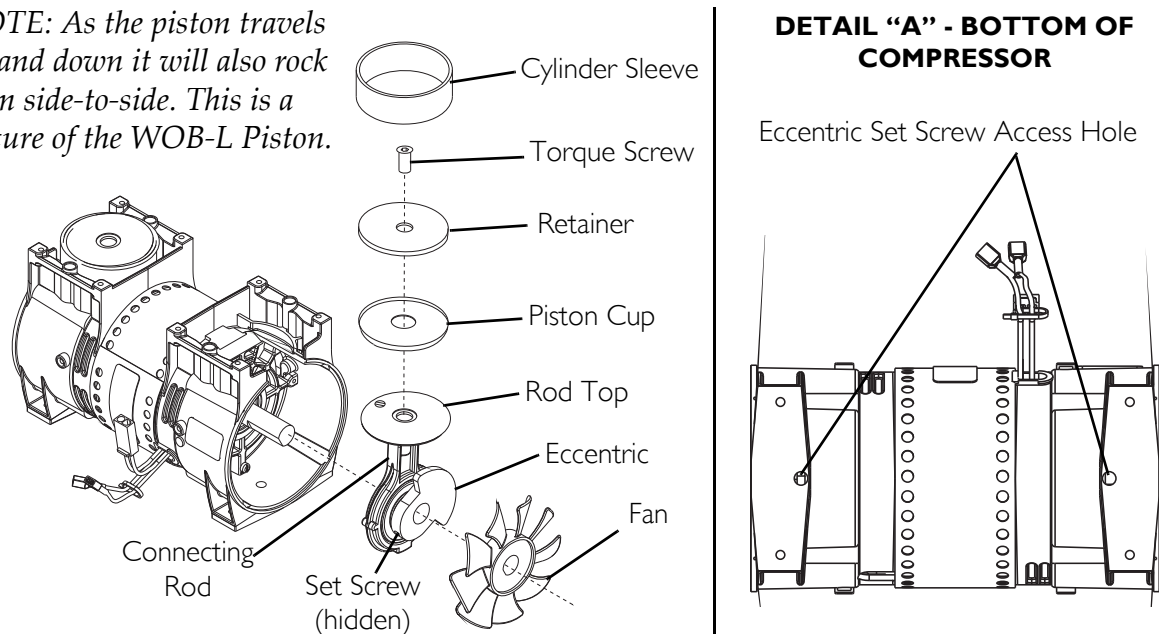

FIGURE 7.5 Removing Compressor and Compressor Heads - Rebuilding the Compressor - Fan - Connecting Rod and Eccentric Assembly - Piston Cup
NOTE: For this procedure, refer to FIGURE 7.5.
2. Insert the 1/8-inch Allen wrench into the access hole in the bottom of the compressor housing (Detail "A" of FIGURE 7.5).
NOTE: For this procedure, refer to FIGURE 7.5 on page 37.
4. Using the access hole, tighten set screw to 40 inch-lbs (Detail "A" of FIGURE 7.5).